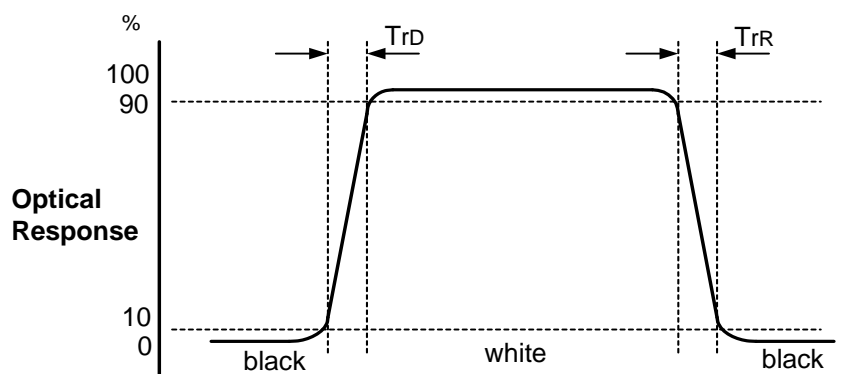

FIG. 3 Response Time
- Response time is the time required for the display to transition from white to black(Rise Time,  $Tr_R$ ) and from black to white(Decay Time,  $Tr_D$ ). For additional information see FIG 3.